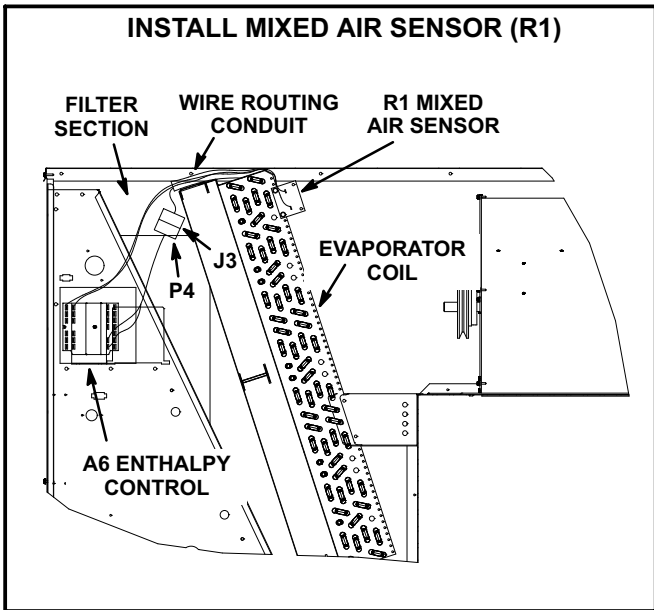

FIGURE 3
- 4- Install mixed air sensor on evaporator coil end plate 1-1/2" from the top of the unit. Orient the thermistor toward the inside of the unit. See figure 3.
- 5- Locate the plastic conduit on top of the filter rack. Route the mixed air sensor wires through the conduit to the mixed air sensor. See figure 3.
- 6- Connect wires to terminals on mixed air sensor. See figure 3 and 4. Sensor is not polarity sensitive.
- 1- Locate 15-pin J3 economizer jack harness hanging on left side of filter compartment. Disconnect P3 jumper plug from J3 and retain jumper plug for future troubleshooting. Connect 15-pin P4 economizer plug on A6 enthalpy controller harness to J3 economizer jack. Refer to figures 3 and 4.